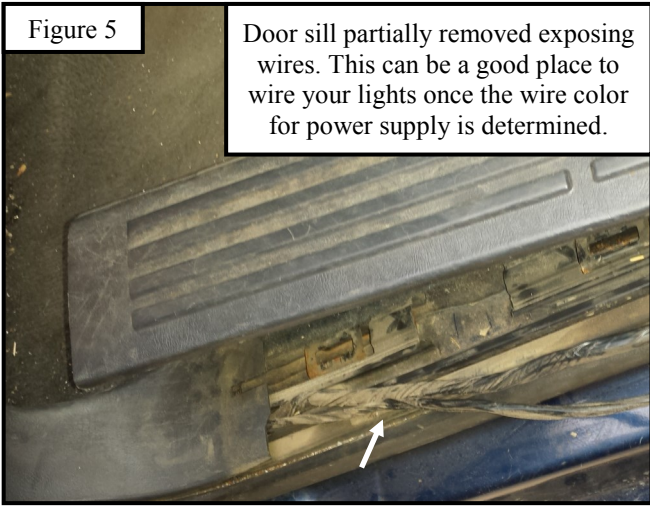

Figure 5
4. Once you find which wire color is the power supply trace it back to an unnoticeable location to tap your running board light to, such as the door sill. See Figure 5.